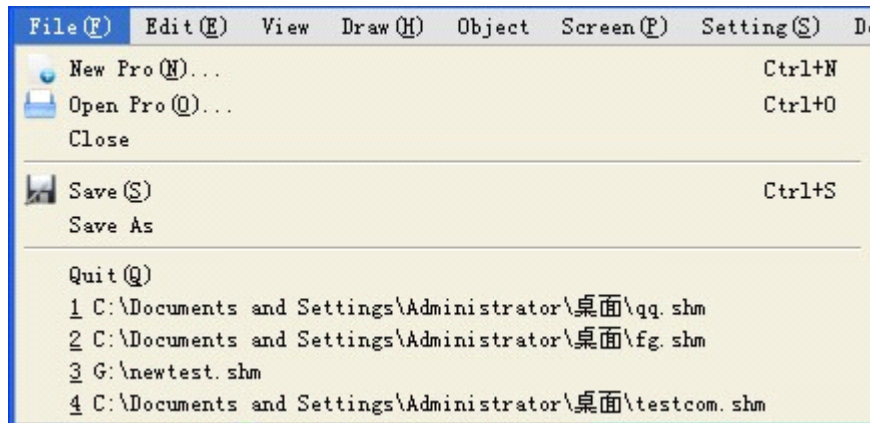

Figure 2-28: “File” menu
File menu includes such options as New Project (N), Open Project (O), Close(C), Save(S), Save As and Quit (Q). Grey options indicate the corresponding operation is invalid under current environment. To open File menu, click the “File (F)” button on the left top corner of the screen, and then a drop-down bar will appear. See Figure 2-28.